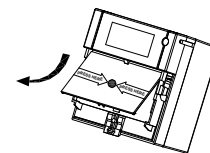

Fig. 4: Operating element
2. Remove the operating element (see Fig. 4).